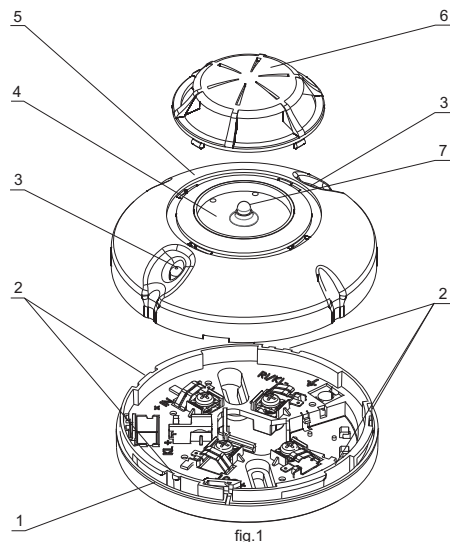
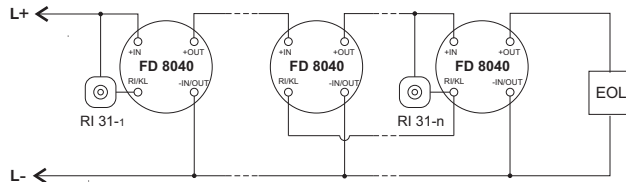

fig.1
fig.2
The fire detector consists of (fig.1) printed board, mounted in a plastic body with optical filter and bottom side. The flat point pivot screw (optional) prevents the fire detector of unauthorized removal. A 2 mm tip screwdriver is required for locking and unlocking. The two red LEDs of the fire detector (fig.1) are indicating fire condition, providing 360 angle visibility. It is recommended that the fire detectors are mounted in premises, where a possible development of fire condition is supplemented by flame. Avoid mounting in premises with flickering lights. The fire detectors shall be mounted on the ceiling in a way, that do not allow exposure to direct sunlight.
1. Fix the base to the ceiling of the protected premise using fixing screws and wood screws. Complete the electrical wiring as shown on (fig.2), and according to the rational design of the premise. Fix the fire detector to the base by means of bayonet joint (fig.1.pos1). When fixing, make sure that the bench mark of the detector stands about 20 mm before the respective bench mark of the base so that the plastic channels fully coincide (fig.1.pos2), then rotate clockwise to complete location (fig.3.pos1). The bench marks should fully coincide (fig.3.pos2).
- \* Remove the detector from the base, than remove the chamber from the detector (fig.1.pos6.) You can use for a cover a cleaning materials, washing and drying. The optical chamber and the photodiode you have to clean with clean cloth.